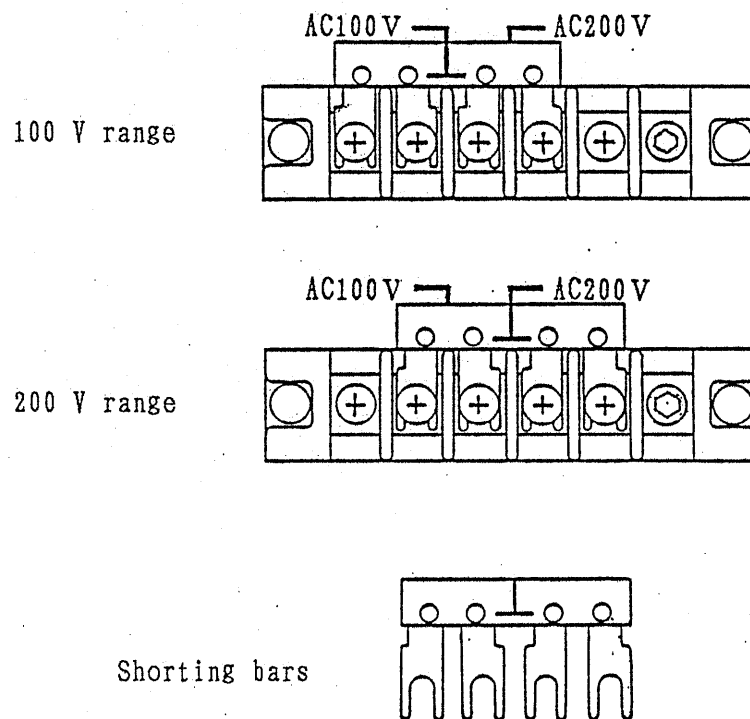

Figure 3-2-2
- 1) Remove the transparent cover of the terminal box ⑨ and the black cover of the INPUT VOLTAGE SELECTOR terminal block ⑬.
- 2) Select either the nominal 100 V or 200 V input voltage range as you may require by changing the positions of the shorting bars of the INPUT VOLTAGE SELECTOR terminal block ⑬ as shown in Figure 3-2-2. (The converter is shipped from its manufacturer with the selector switch set at the 200 V range.)